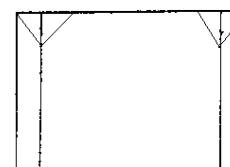

Fig. 6
- Adjust the UPPER CORNER CORRECTION to obtain condition as in (fig. 6).